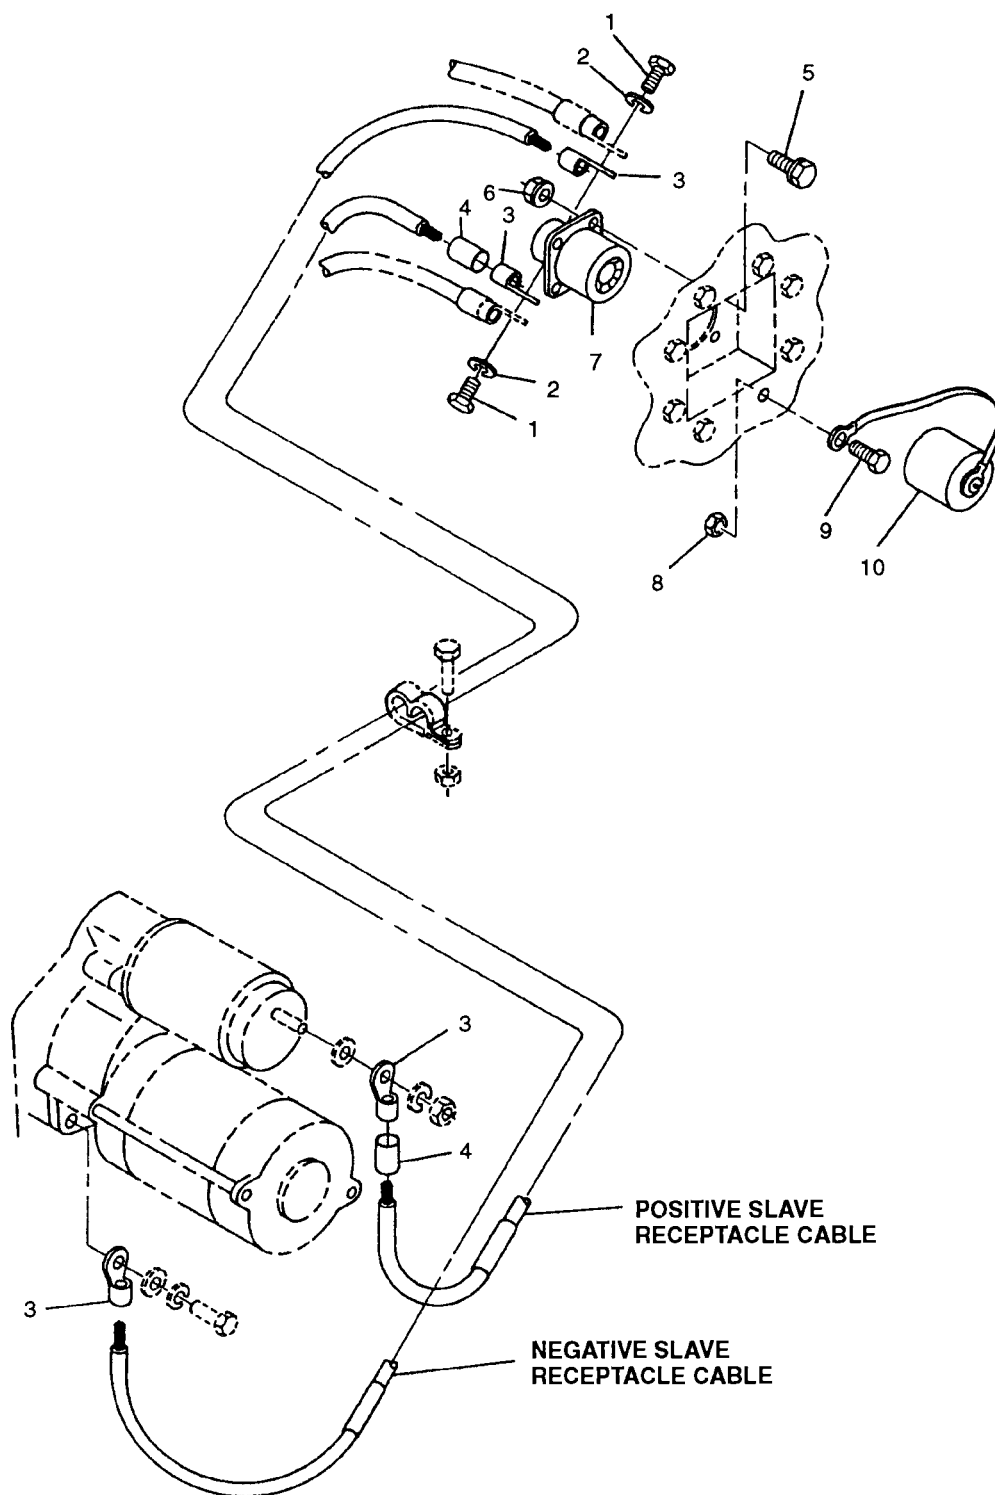

FIGURE 2-4. NATO Slave Receptacle and Cables
- c. Tag and disconnect battery and slave receptacle cables from slave receptacle (7, FIGURE 2-4) by removing bolts (1) and lockwashers (2).
- d. Remove bolts (5), nuts (6), and NATO slave receptacle (7) from generator set housing.
- e. Remove nut (8), bolt (9), and cover (10) from generator set.
- a. Insert NATO slave receptacle (7, FIGURE 2-4) into generator set housing.
- b. Secure receptacle (7) with bolts (5) and nuts (6).
- c. Connect slave receptacle and battery cables to slave receptacle (7) with bolts (1) and lockwashers (2) Remove tags.
- d. Install cover (10) on generator set with bolt (9) and nut (8).